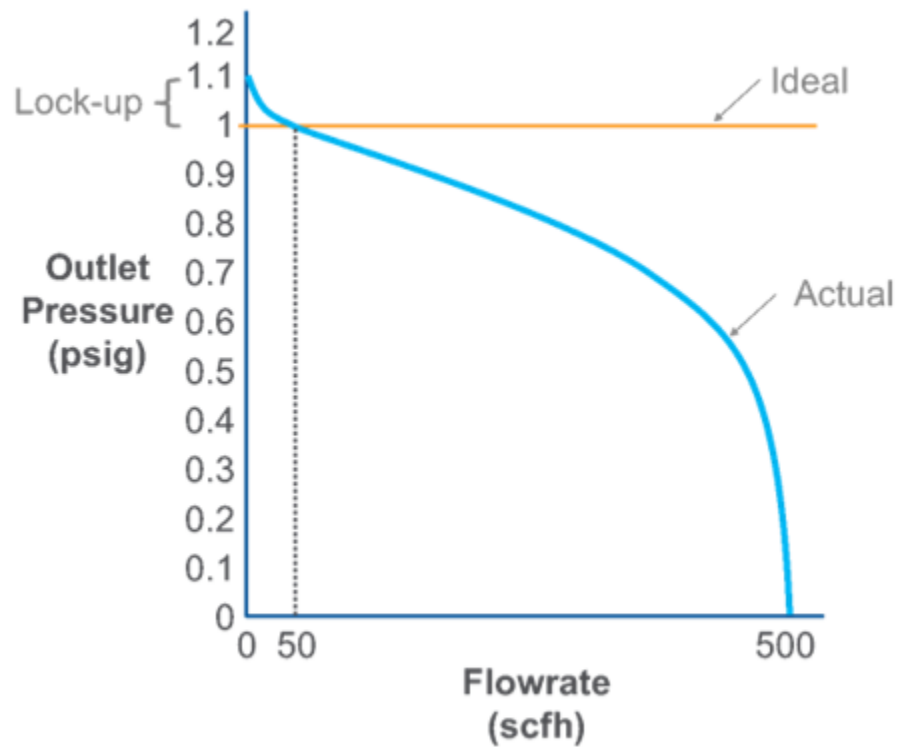

Figure 29. Lockup performance
The amount of increased pressure above setpoint needed to achieve shutoff is called lock-up (Figure 29). Lock-up is an important regulator characteristic because it affects how well the pressure regulator fulfills its reason for existence: maintaining a constant outlet pressure. Typically, regulators that have inlet pressures above 0.5 psig must be of the positive shut-off type, which means the valve disk has a soft seated disc and the valve seat or orifice has a tapered machined edge. These regulators will usually lock up to within 10% of the original outlet pressure setting.
- Figure 29. “Lockup performance” from Emerson is used and adapted for educational purposes under the basis of fair dealing.